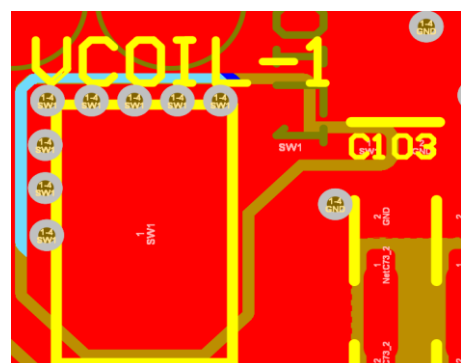

Figure 4: Little capacitor C103 near coil pad
- Place small capacitor close to the coil pad to minimize EMI noises. Refer to figure 4.
- [1]~[11]Place small-size input capacitors as close as possible between the Vin pin and PGND pin besides the NU1020. These capacitors can effectively filter out high-frequency noises due to their low ESR and ESL. Please refer to C1 C42 C77 C43 C9 C52 C12 C44 C45 C79 and C11 in Figure 4.